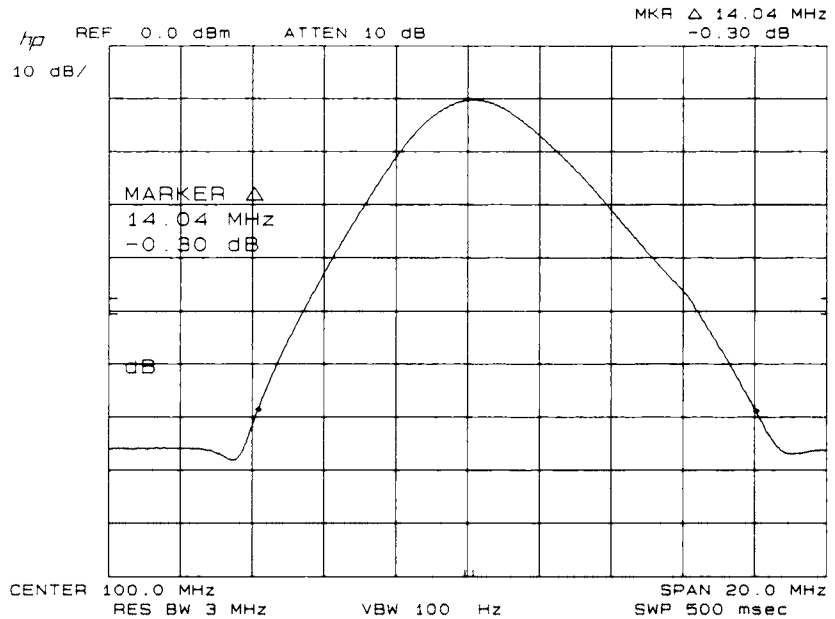

Figure 4-5. 60 dB Bandwidth Measurement
5. Read the 60 dB bandwidth for the 3 MHz resolution bandwidth setting from the MARKER Δ frequency readout (see Figure 4-5) and record the value in Table 4-5.